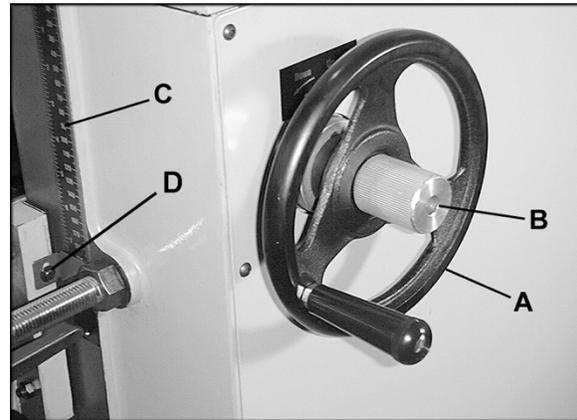

Figure 4
Depth of cut is controlled by raising or lowering the table. This is done by using the handwheel (A), shown in Figure 4.
1. Loosen the lock knob (B, Figure 4).
2. Raise or lower the table to the desired position (clockwise to raise). One revolution of the handwheel equals 1/16". The distance can be read on the scale (C, Figure 4).
3. Retighten lock knob (B, Figure 4).
4. The pointer (D, Figure 4) can be adjusted slightly if the scale should ever need recalibrating.